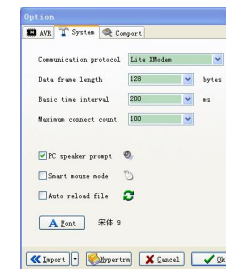

Fig. 11
- 4) Start avrubd. At Option - System tab of select “Lite XModem” as communication protocol and set maximum connect count to 100 (see Fig. 11).